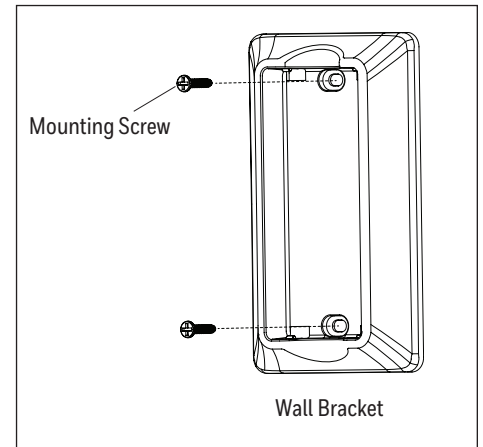

Figure 4.3
3. If desired, the wall bracket in remote pack can be installed to a wall using the provided mounting screws. The remote can be stored in the mounting bracket for easy access (Figure 4.3).